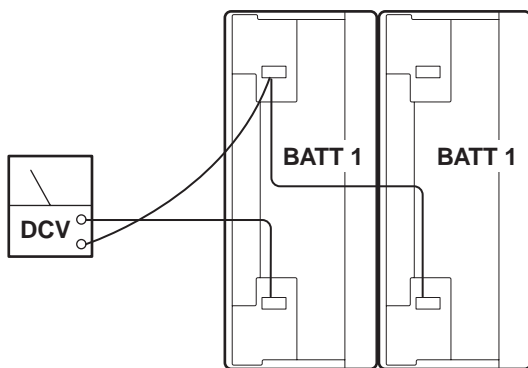

Figure 7-5.
4. Continue to press the TABLE UP button on the pendant control so that the pump motor continues to run and using a DC voltmeter, check the voltage drop of each battery individually. See figure 7-5.